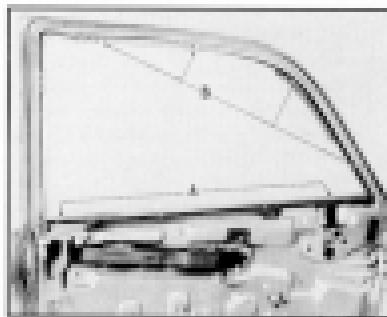

Fig. 64. Reveal Molding Retainer Clips and Screws
- Remove seat adjuster to floor pan bolts and remove seat assembly. (Fig. 64)
Closed body doors and quarter windows have a two-piece door outside window molding consisting of an upper and a lower window reveal molding assembly. Figure 64 shows the junction of the upper and lower moldings at the lower corner of the door window on the '80 series. The upper molding is retained by clips, while the lower molding which laps over the end of the upper molding, is attached with screws. No reveal molding covers the front door lock pillar or the rear door hinge pillar portions of the window opening. On sedans, the center pillar has short upper and lower reveal moldings which are installed over bolts placed